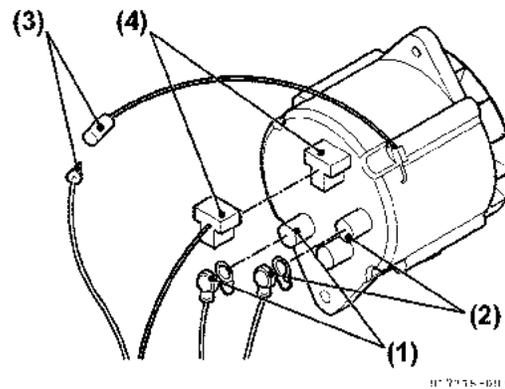

Figure 11-8
1. Disconnect negative (-) cable from E terminal (Figure 11-8, (1)).
4. Disconnect positive (+) cable from Battery terminal (Figure 11-8, (2)).
5. Disconnect wire connection for speed pulse (Figure 11-8, (3)).
6. Disconnect T-connection for charge lamp (Figure 11-8, (4)).